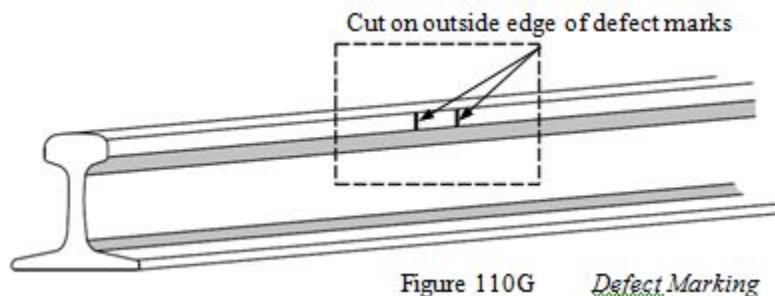

Figure 110G *Defect Marking*
- If rail is not cut and marks are visible, cut on outside of marks.(See Figure 110G)